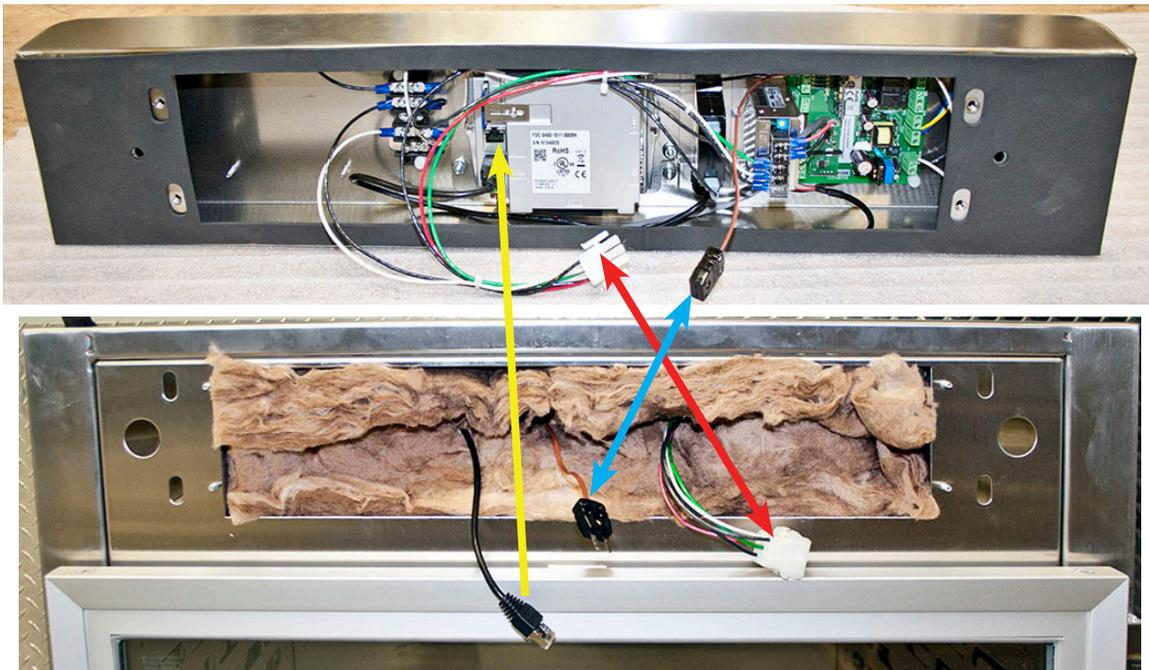

Fig. 10: Reconnecting header to drawer assy
1. Plug in the 9 pin harness connectors of the new header to its counterpart in the drawer assembly (Fig. 8 & Fig. 10 - red arrow). This harness connection (both male/female) has green red, black and white wires.
2. Plug in the male thermocouple plug to the female thermocouple receptacle (Fig. 10 - light blue arrow).
3. Plug in the ethernet cable to the TS display on the header (Fig. 10 - yellow arrow).
1. After the old header is removed, place the new header in front of the drawer assembly to facilitate reconnecting its wiring to the drawer assembly. Use Fig. 10 as a guide. From the back of the header: